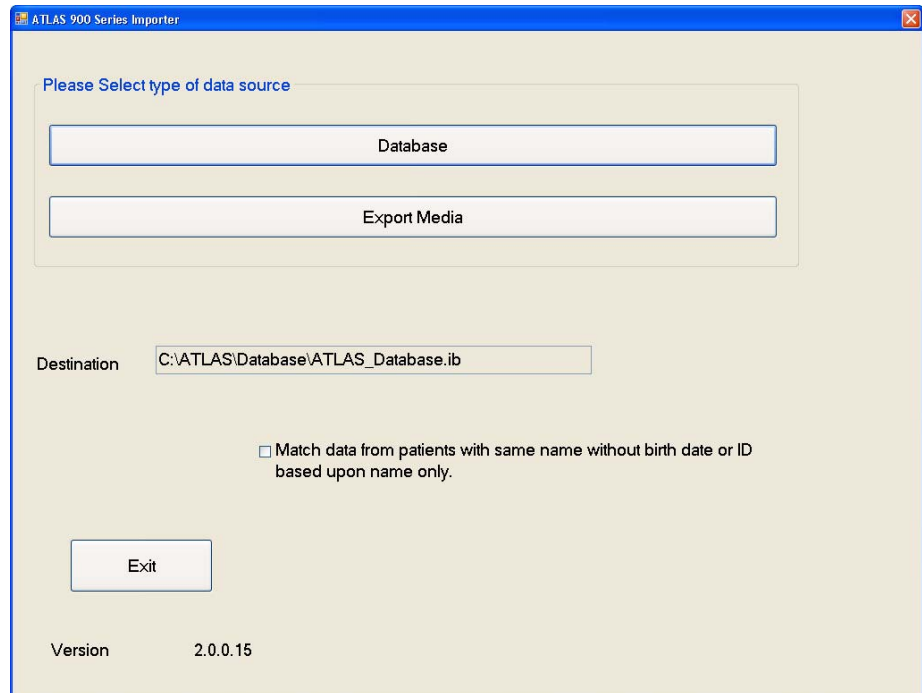

Figure 11-19 ATLAS 900 Series Importer Dialog
1. While in patient selection mode, click **Tools > Run Atlas Importer...** to display the ATLAS 900 Series Importer dialog (Figure 11-19).